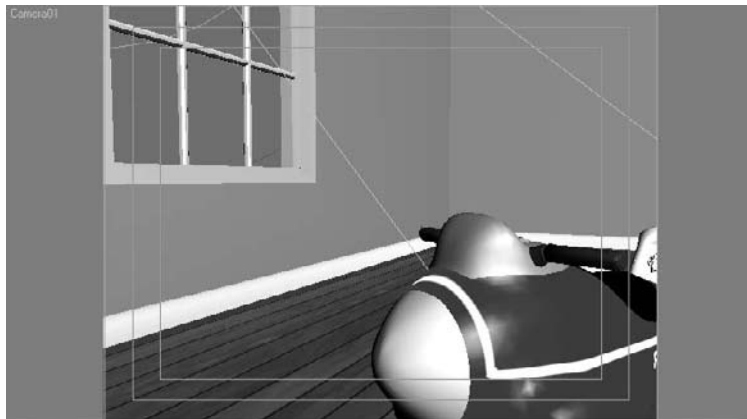

Figure 11.52
4. Select the Dolly Camera tool (  ), to move the camera closer to the rocket. Click and drag the Dolly Camera tool in the Camera viewport until you see only the front of the rocket, as shown in Figure 11.52.